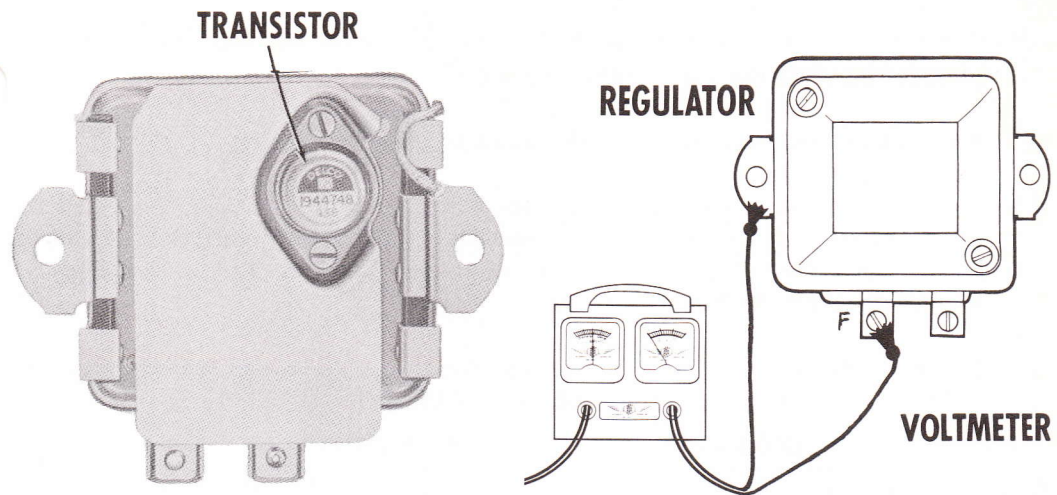

Figure 37
1. To check the transistor, connect a voltmeter from the regulator "F" terminal to ground (Fig. 37).